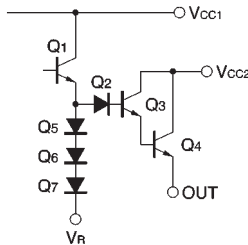

Fig.7
(1) A schematic for the internal circuit associated with the output voltage setting pin (Pin 4) is shown in Fig. 7. The maximum output voltage ( $V_{OMAX.}$ ) is given by :